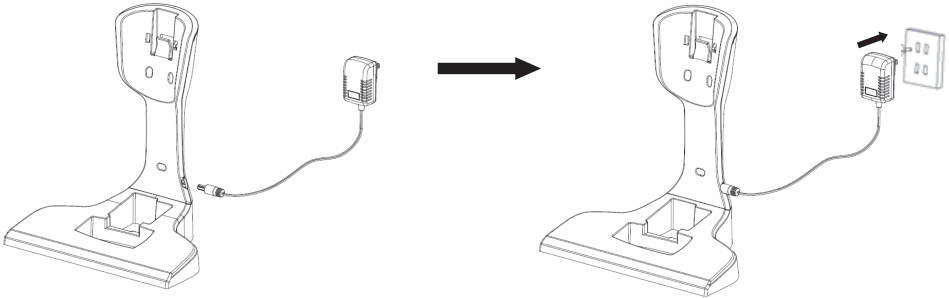

Fig. 8
1. Insert the small plug of the adapter into the charger stand, then connect the power adapter to the mains (see Fig. 8).